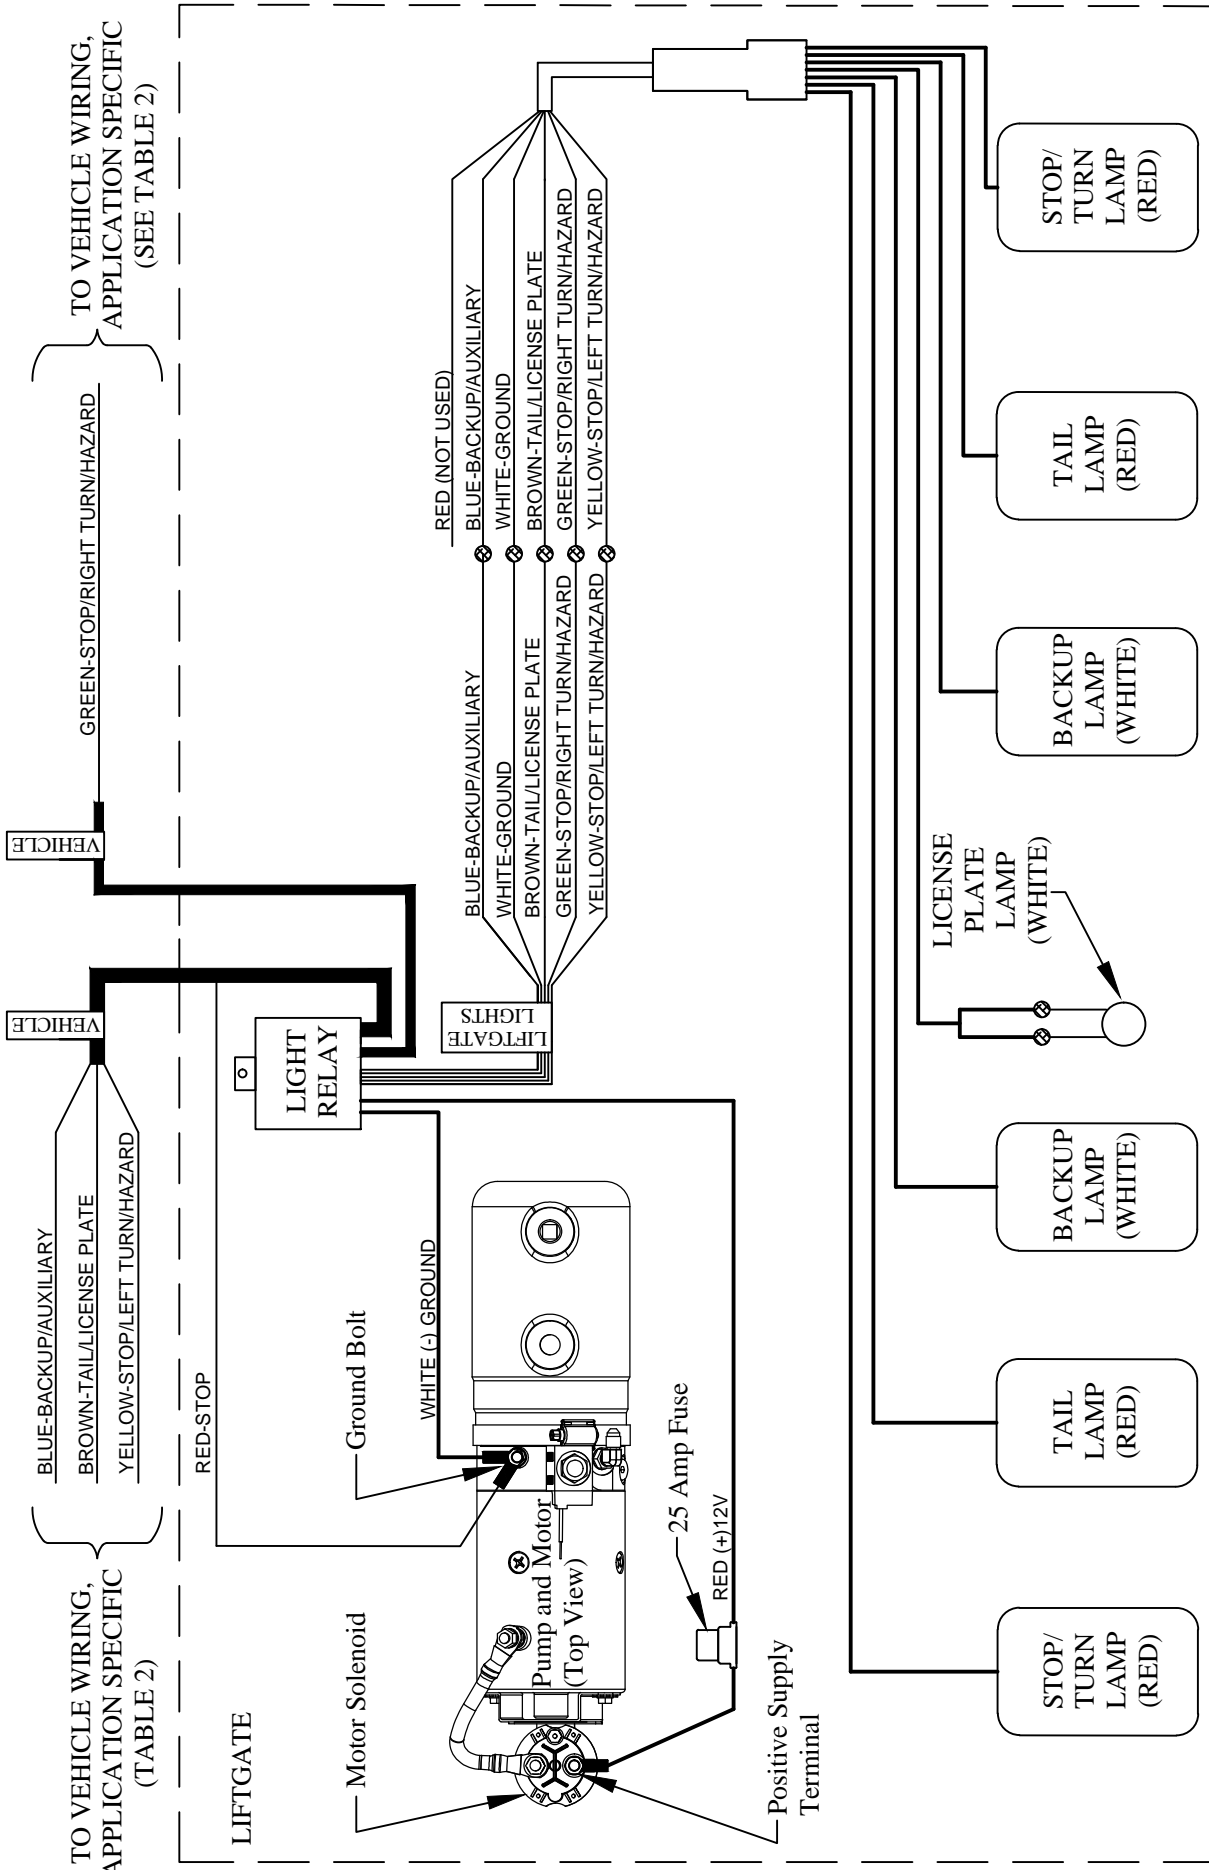
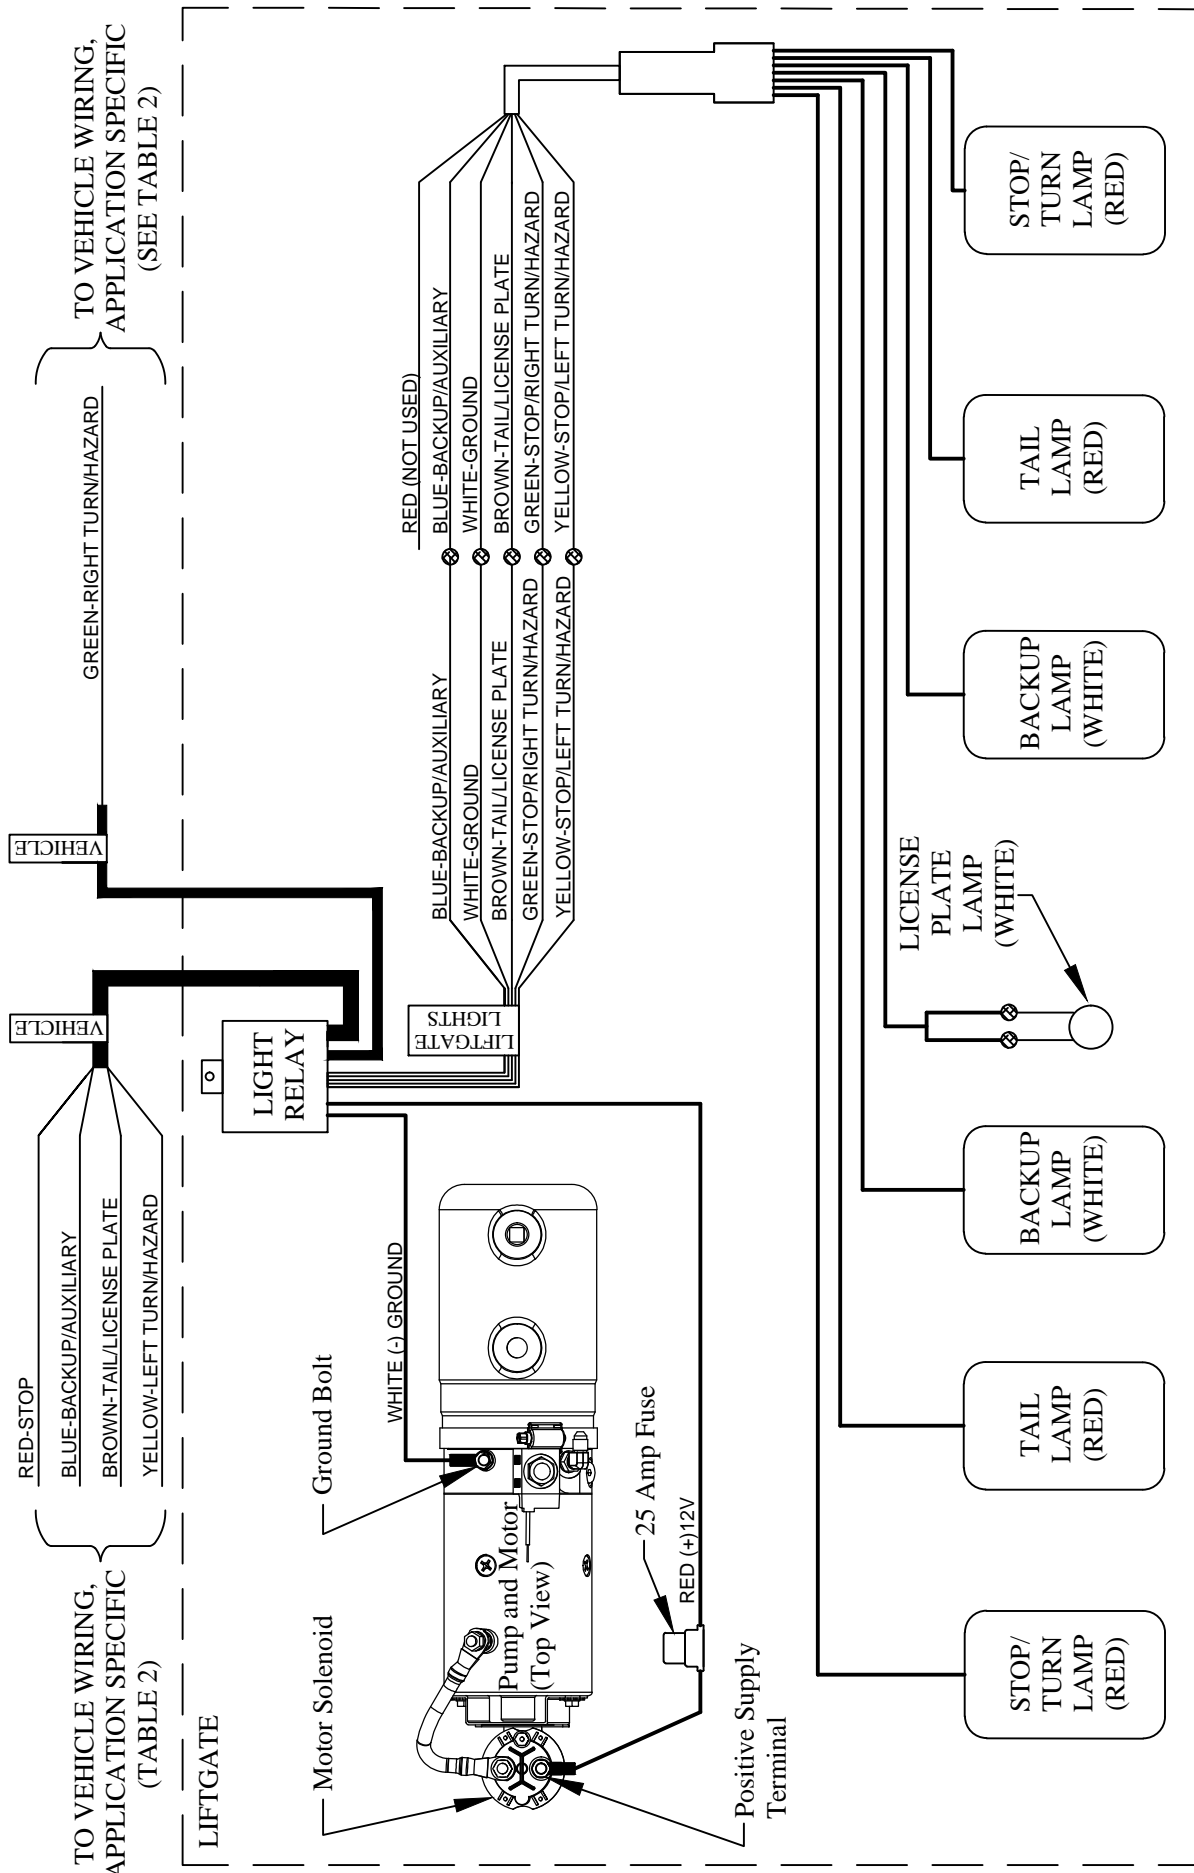

Figure 6: Wiring Diagram, Installing 015862 12V Light Relay on Vehicles with Combined Stop/Turn (2-Wire) Lighting Systems
Figure 7: Wiring Diagram, Installing 015862 12V Light Relay on Vehicles with Separated Stop/Turn (3-Wire) Lighting Systems
13. Connect the relay's red stop wire to the ground bolt on the rear of the hydraulic pump if the relay will be wired to a combined stop/turn (2-wire) system (Figure 6).
14. Connect the relay's ground (-) wire to the ground bolt on the rear of the hydraulic pump (Figure 6 or Figure 7).
16. Connect the relay's input wires, labeled "VEHICLE", by splicing to the corresponding wires in the vehicle's tail light harness or trailer tow harness. Use the provided butt connectors or IDC connectors (Figure 6 or Figure 7).
18. Connect the relay's five output wires, labeled "LIFTGATE LIGHTS", to the corresponding wires in the liftgate's light harness using the provided butt connectors (Figure 6 or Figure 7).
19. Connect the relay's positive (+) wire to the positive (+) supply terminal on the motor solenoid (Figure 6 or Figure 7).
20. Verify that the relay wiring matches the corresponding wiring diagram (Figure 6 or Figure 7).